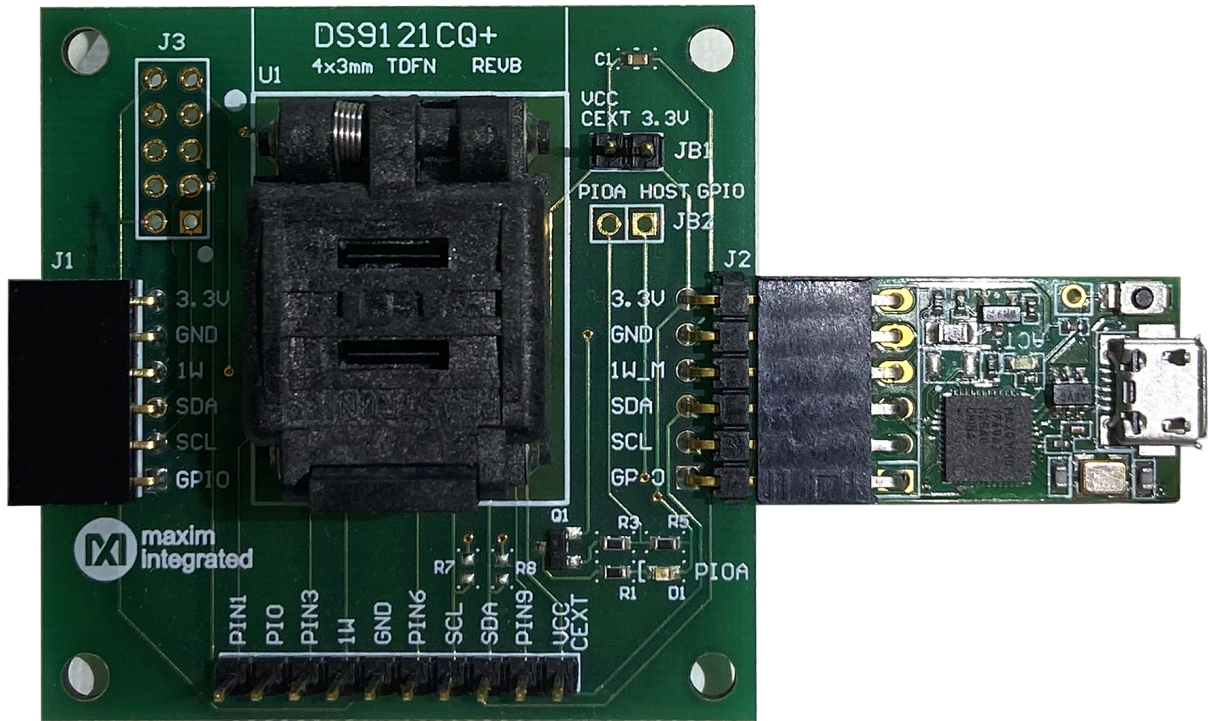

Figure 7. DS9481P-300# and DS9121CQ
- Connect the DS9121CQ J2 6-pin male plug into the DS9481P-300# 6-pin female socket per Figure 7.